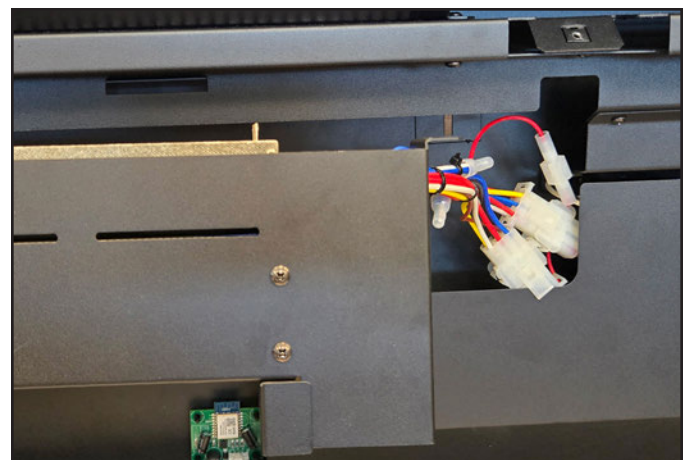

Figure 17 Unplug and Remove Heater Assembly
4. Unplug the three (3) wire harness quick connects, and remove the heater assembly. See Figure 17.